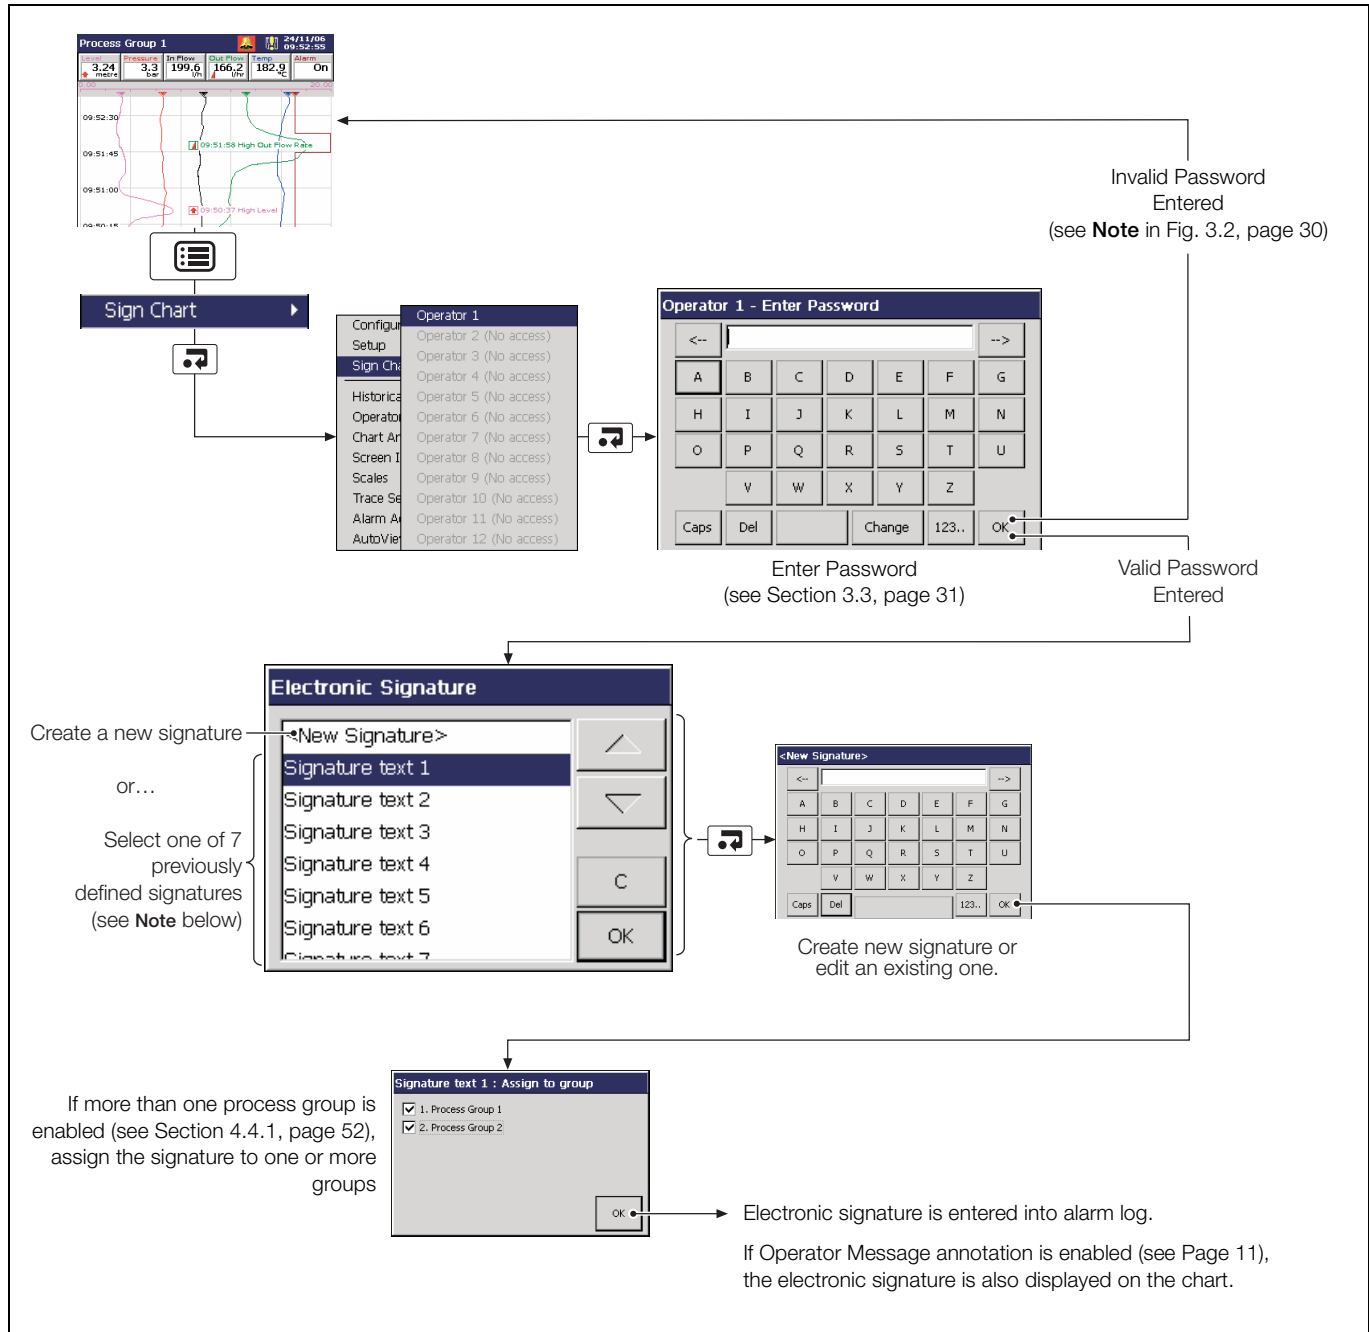

Fig. 2.4 Entering an Electronic Signature
2.3.1 Electronic Signatures – Fig. 2.4